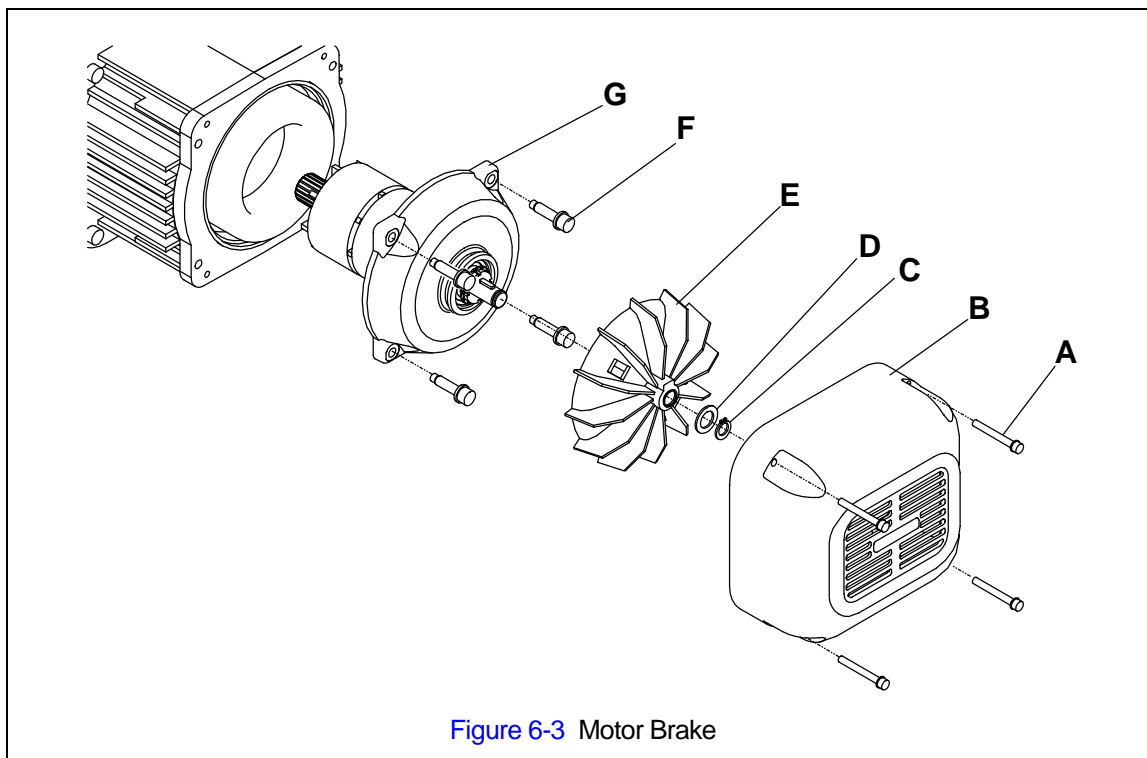

Figure 6-3 Motor Brake
- 2) Refer to Figure 6-3.
- 3) Remove the four Fan Cover bolts (A), Fan Cover (B), Fan snap ring (C), and Fan washer (D).
- 4) Pull the Fan (E) off the motor shaft using a wheel puller if necessary.
- 5) Remove the four Motor Cover Assembly bolts (F) and carefully pull the motor brake unit (G) out of the hoist.